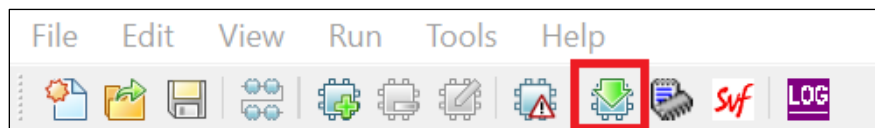

Figure 3.5. Program the device
6. Press **OK**, then click **Program Device** in the Programmer to complete programming. See Figure 3.5.